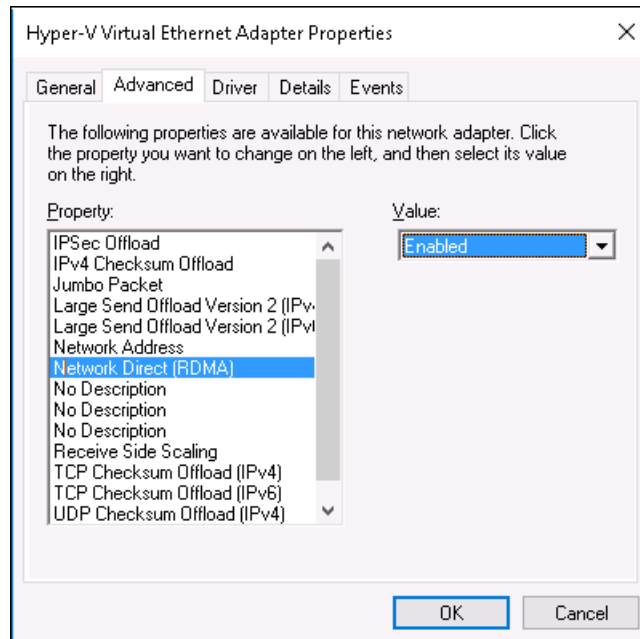

Figure 15-2. Hyper-V Virtual Ethernet Adapter Properties
3. On the Advanced page (Figure 15-2):